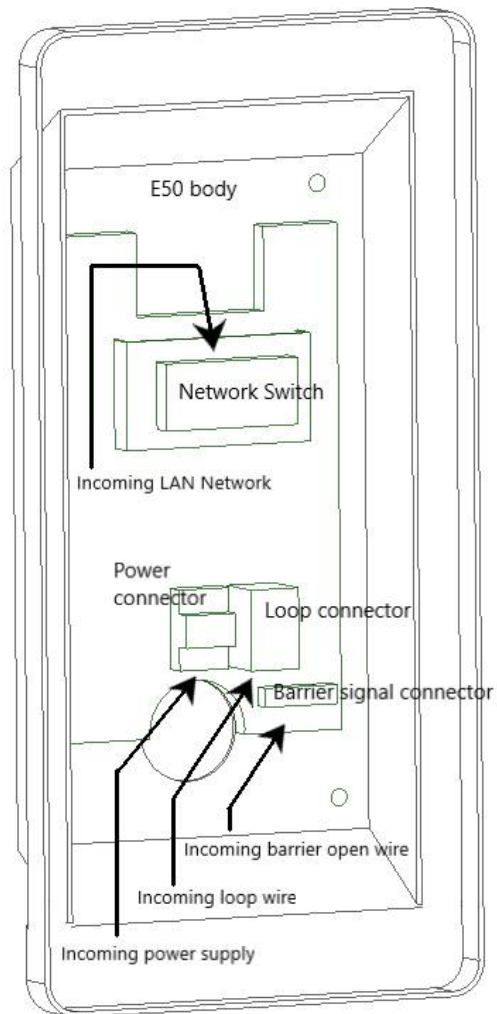

Figure 2.6: Picture of power connector, loop connector and barrier signal connector position.
1. Guide the LAN network cable to the network switch. Use the cable conduit passage until reach the network switch (see Figure 2.6).
1. Guide barrier open signal wire to the barrier signal connector (Figure 2.6)